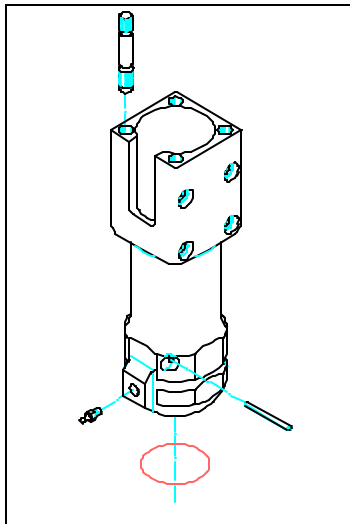

Figure 08-20: Chuck Housing
2. Slide the Insert Chuck Housing (Position 105) into the chuck housing (pos. 307) by hand. (Figure 08-20) If resistant, gently tap with a small hammer. Position flat edge of insert chuck housing in alignment with pin in chuck housing.